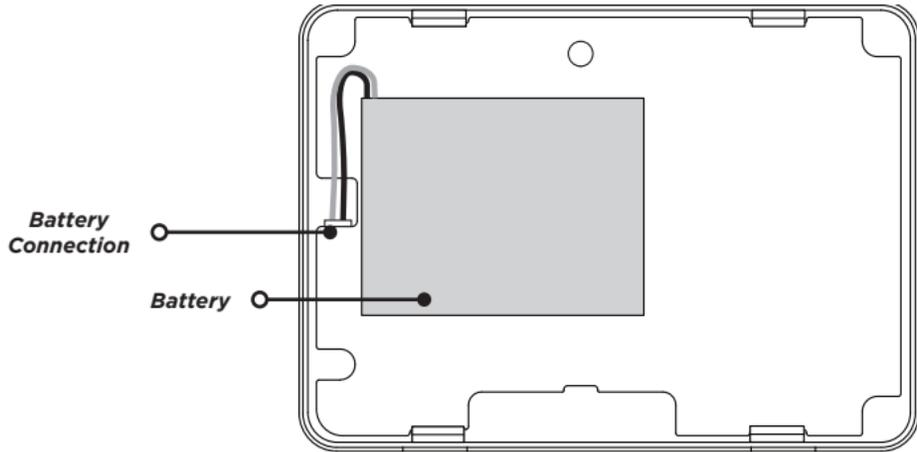

Figure 21: Replace the Battery
4. Place the new battery on the keypad PCB using double-sided sticky tape. See Figure 21.